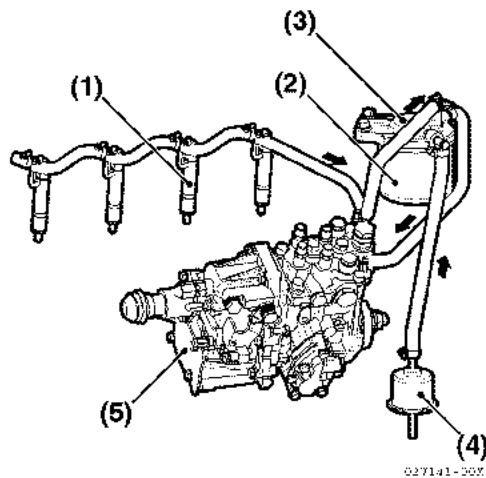

**Figure 5-11**
9. Remove the adjuster from the freshwater pump, and remove the alternator from the gear case (with spacer) (Figure 5-11).